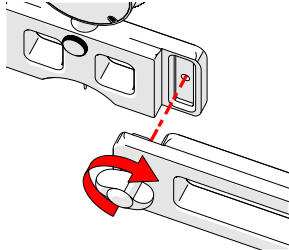

Fig. 3: Tighten thumb screw
- ▶ Align the receiving component holes (centre base, blind side base, arms) with the thumb screw (Fig. 3)